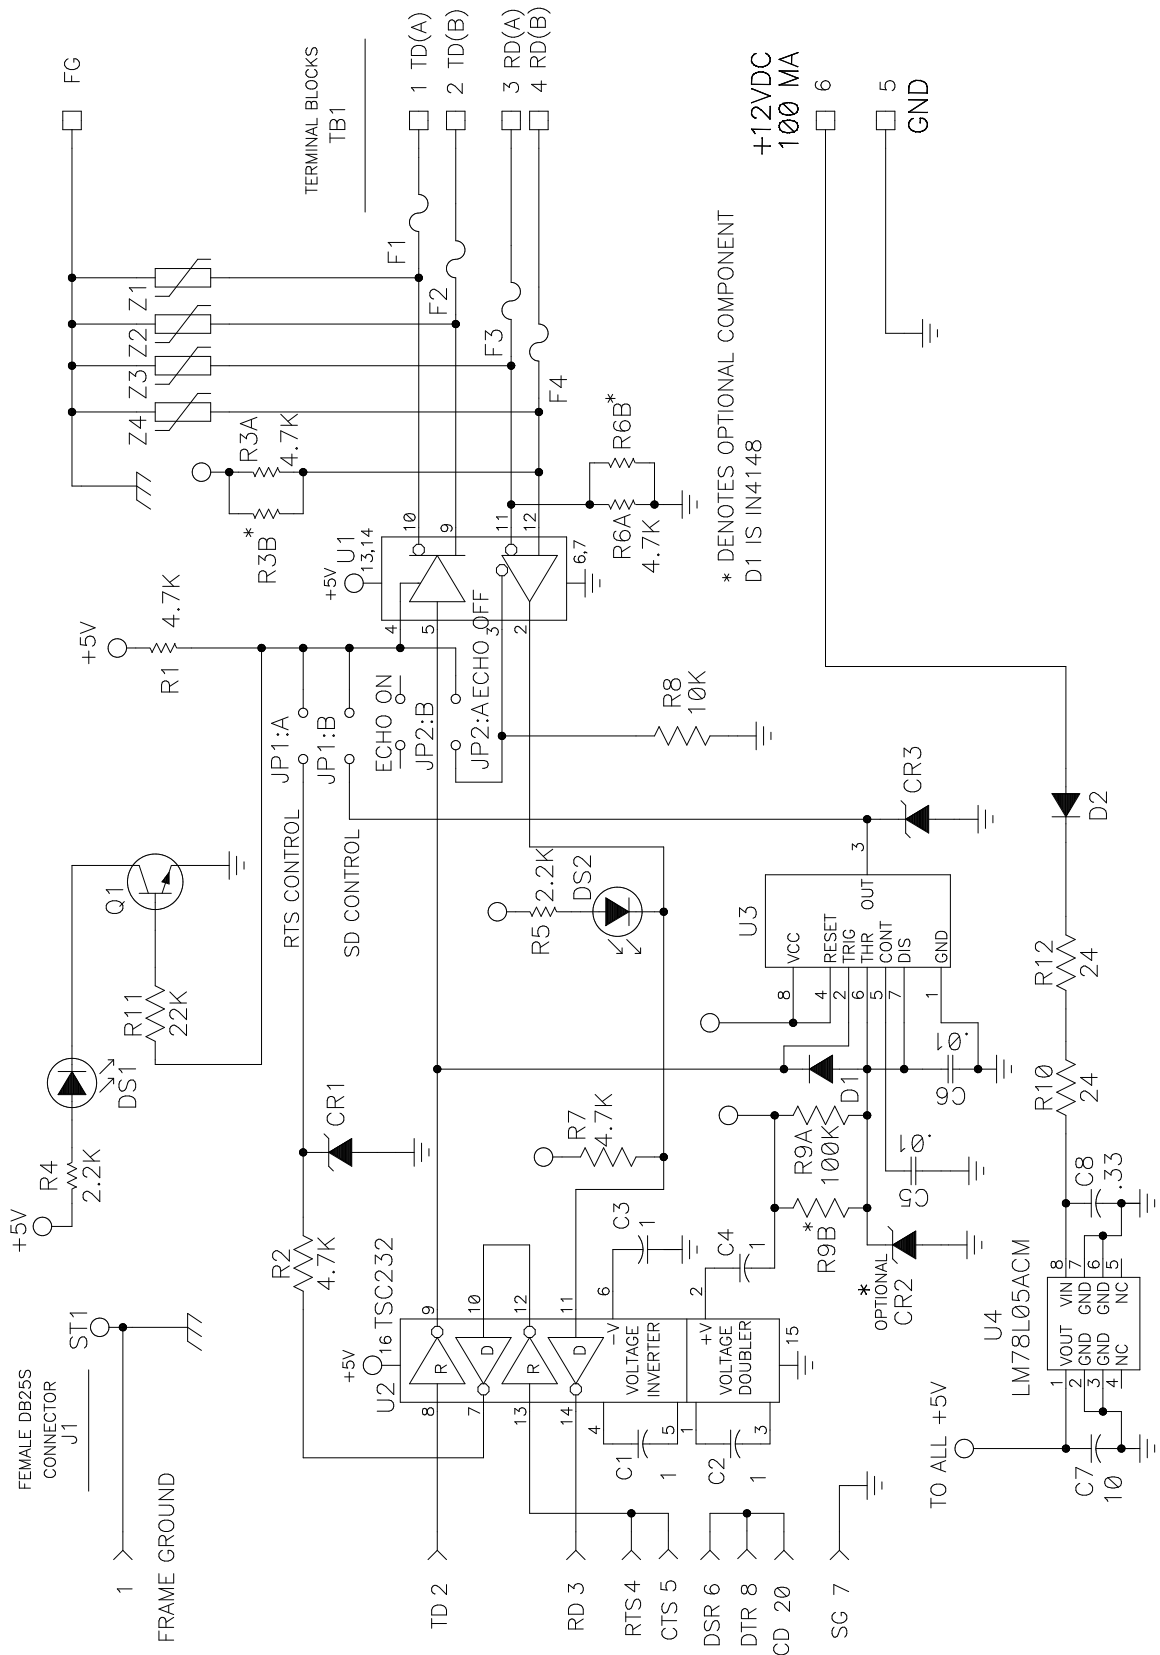

Figure 1
The RS-232 port has a female DB-25 connector with pins 2 (TD), 3 (RD), and 7 (Signal Ground) supported. Pins 4 (RTS) and 5 (CTS) are tied together, and pins 6 (DSR), 8 (CD), and 20 (DTR) are also tied together. Pins 1 (Frame Ground) and 7 (Signal Ground) are connected straight through to the RS-485 terminal blocks. The 485CSP2 has two LEDs, a Transmit Enable LED to show when the RS-485 driver is enabled, and a Receive Data LED showing data appearing at pin 3 of the RS-232 port. These are very useful for determining if data is getting through the converter. Note that the Transmit Enable LED indicates only that the 485 driver is enabled, data must be present on pin 2 of the 232 side for data to be transmitted out of the 485 side. If no data is present, no data will be transmitted even though the Transmit Enable LED is illuminated. The RS-485 terminal blocks support Transmit Data (A) and (B), Receive Data (A) and (B), Frame Ground, Signal Ground, and +12 VDC input. See Figure 1.